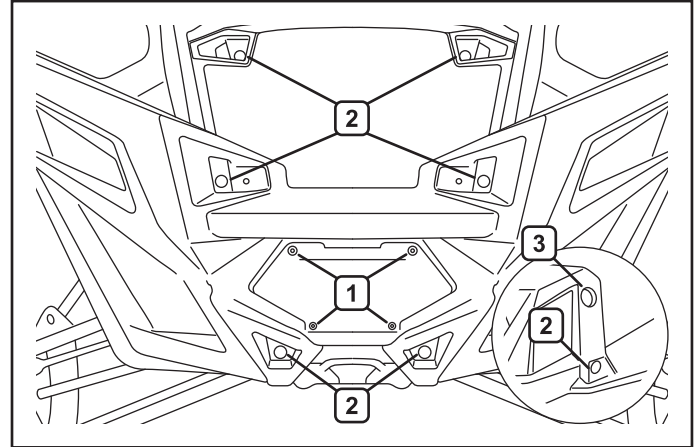

Figure 1.
1. Remove the winch pocket cover by removing four screws (1) as shown in figure 1.
2. Remove the front bumper cover by removing eight screws (2) and two clips (3). See figure 1.
9. Reinstall front bumper cover with eight bolts (2) and two clips (3) removed in step 2. See figure 1.